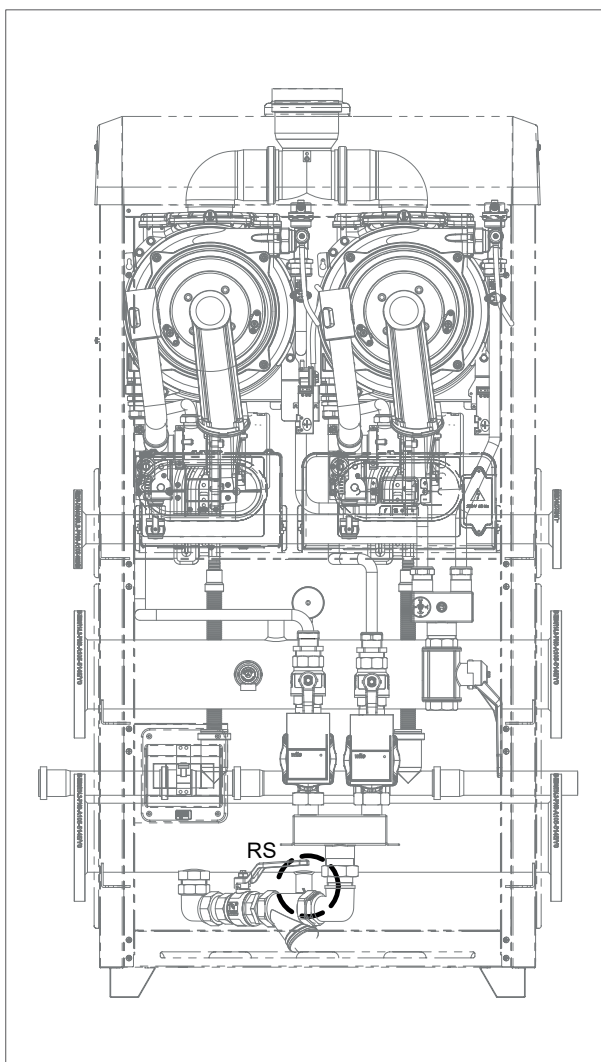

fig. 1
- › if only the boiler needs to be drained, close the flow/return isolating valves on the heating circuit and open the drain valve located at the bottom of the boiler on the pump manifold (see fig. 1);
CLEANING THE MAIN EXCHANGER MODULE AND COMBUSTION UNIT (SEE FIG. 1):
- Disconnect the joint and remove the pipe linking the gas valve to the injector unit (venturi, fig.1 - A).